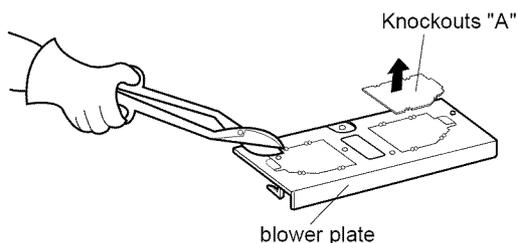

Figure 19
5. Use side cutters or tin snips to cut and remove knockouts "A" from blower plate. Discard knockouts. Be careful not to distort the plate. See Figure 19.